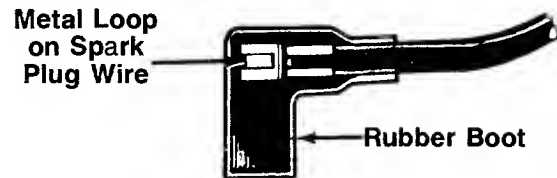

FIGURE 20.
1. Attach spark plug wire to spark plug. If unit is equipped with a rubber boot over the end of the spark plug wire, make certain the metal loop on the end of the spark plug wire (inside the rubber boot) is fastened securely over the metal tip on the spark plug. See figure 20.